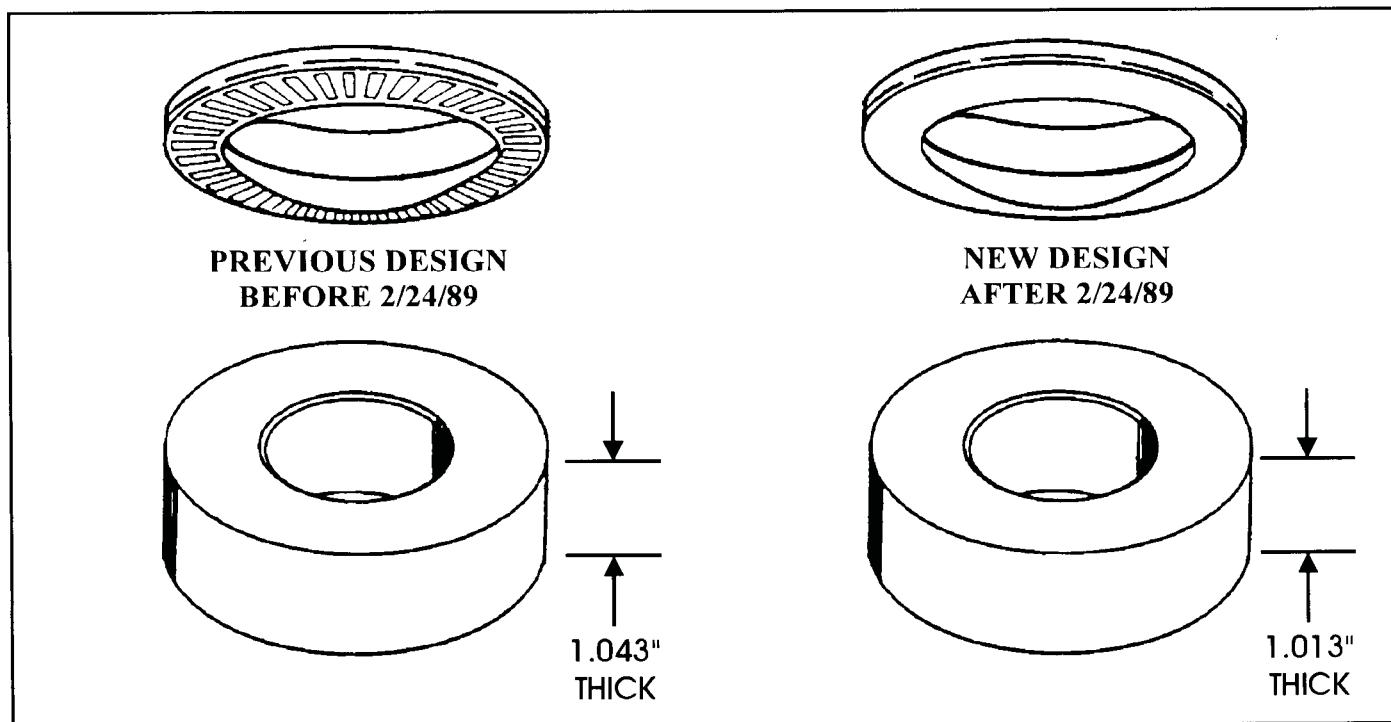

Figure 30
- (1) LOW ROLLER CLUTCH INNER RACE - As of 2/24/89, the Low Roller Clutch Inner Race height has been reduced by .030" to accommodate a revised hub to race thrust bearing. The previous inner race height was 1.043" and the new design is 1.013", as shown in Figure 30.
- (2) HUB TO RACE THRUST BEARING - The previous thrust bearing was a **2 Piece** (open face) design, and the new design is a **3 Piece** (closed) design bearing. The thickness of the previous 2 piece thrust bearing is .110" thick, and the new design 3 piece bearing is .140" thick, so that it is compatable with the new thinner inner race (See Figure 30).